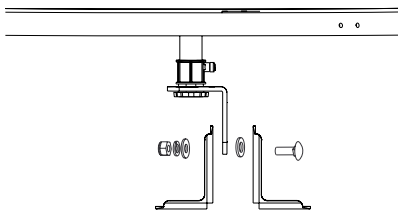

Figure 4 Attach other bracket arm
- 4.8. Attach the other bracket arm using a carriage bolt, 5/16" washer, lockwasher, and hex nut. The camera mounting side may be facing either in or out (Figure 4).